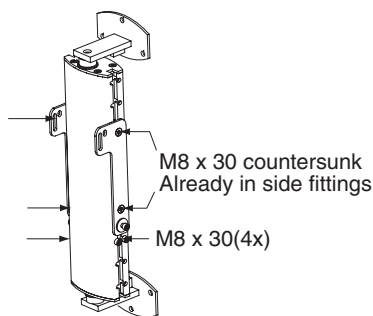

Figure 2
- ④ Mount side fittings at the desired height. Insert M8 x 30 bolts where indicated. Tighten all bolts (see Fig. 2).
- ⑤ PLEASE NOTE: This step requires two people: Use the wall fixtures as a template to mark where to drill holes for the wall screws. Use level to check alignment, drill holes and fasten fixtures to wall.